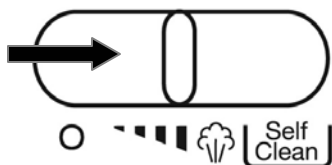

Fig. 3
- Slide the variable steam control to the right to increase the amount of steam. (Fig. 3) When using extra steam, the iron uses more water and it may be necessary to fill the tank more often. See page 4 for refilling the iron with water.
- Position variable steam control to the burst of steam position. (Fig. 3)